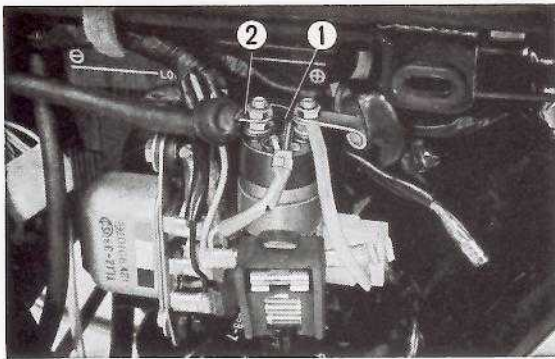

Fig. 9-10 ① Magnetic switch
1. Remove the left side cover, disconnect the electric lead to the magnetic switch and then remove the magnetic switch. (Fig. 9-10)